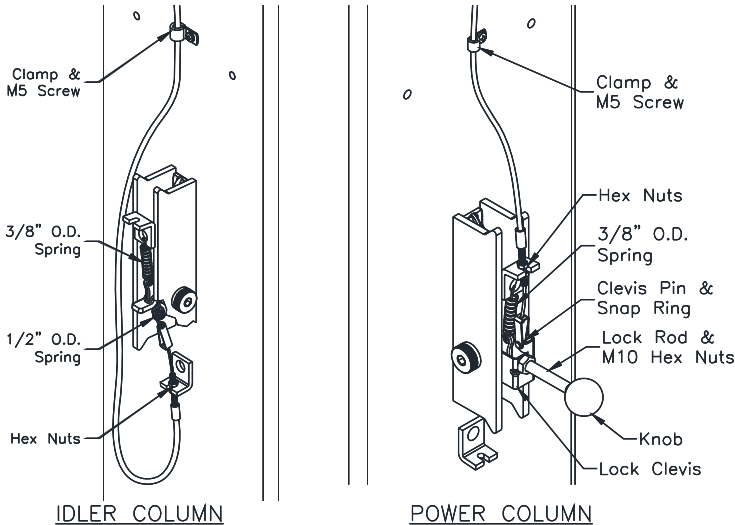

Fig. 8 – Lock Assembly
- 29) Attach Mechanical Lock Release Cable Assembly to each lock pawl. See **Fig. 8**.